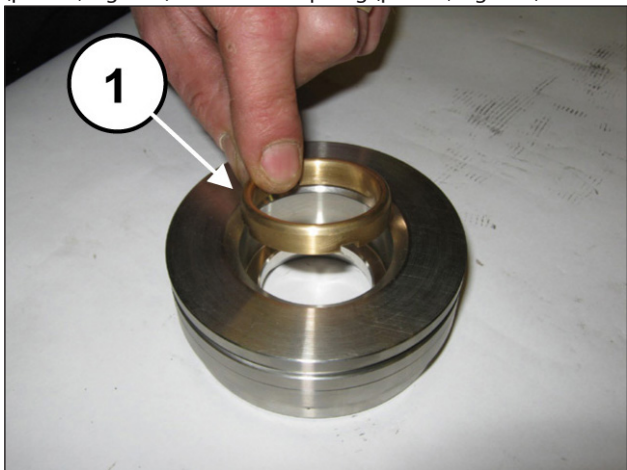
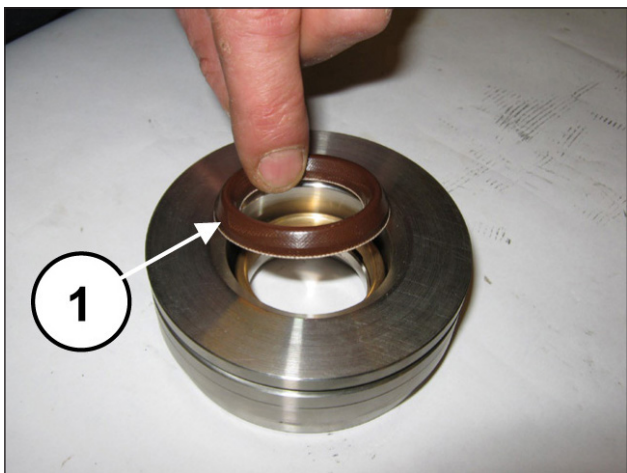
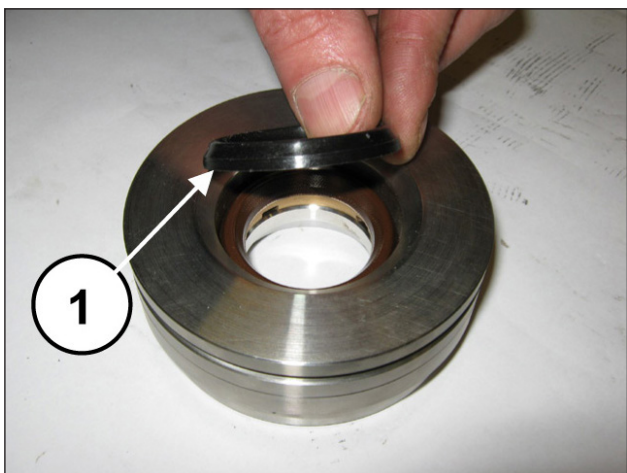

Fig. 176
Fig. 177
Fig. 178
Install the head ring (pos. ①, Fig. 176), the high pressure seal (pos. ①, Fig. 177) and the restop ring (pos. ①, Fig. 178).